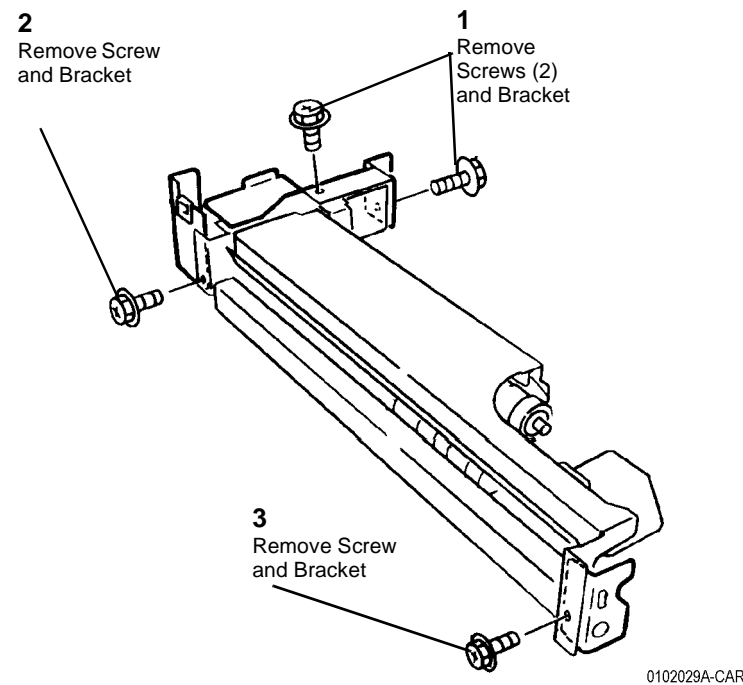

Figure 4 Removing the Brackets
6. Remove Brackets from Tray 4 Feeder Assembly (Figure 4).